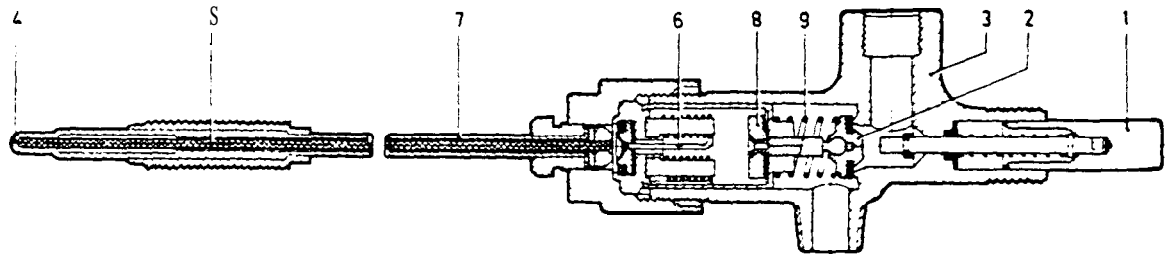

Fig. 58
17. THERMOELECTRIC FLAME FAILURE SAFETY DEVICE (see fig. 58)